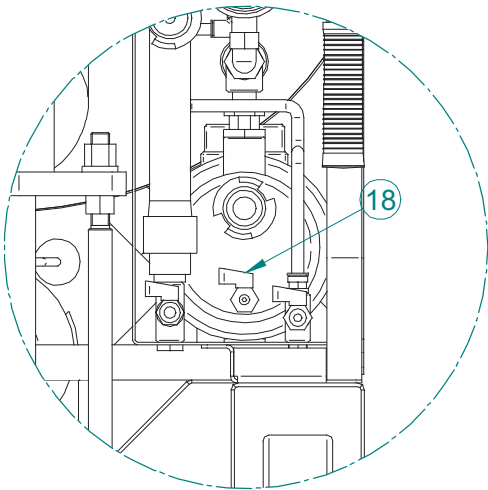

FIG.18
If there is any risk of freezing, open the three valves (ref.18) as shown in fig.18 and drain all water from the circuit.